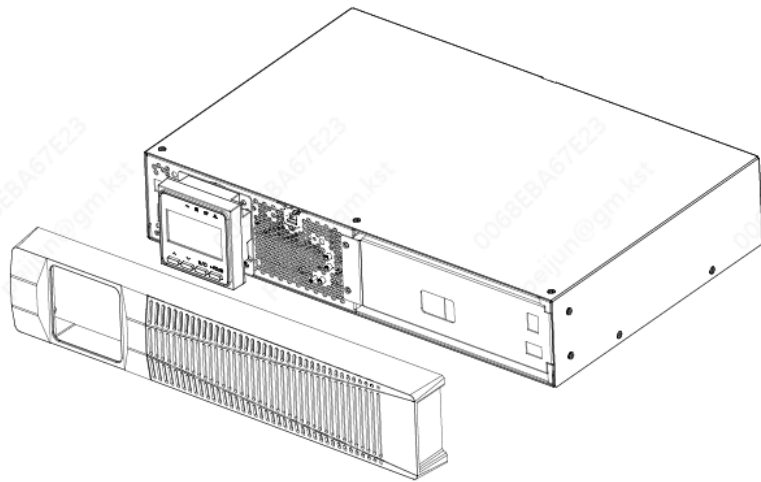

Figure 6 Connecting the UPS Internal Batteries
- b) Connect the internal battery connector(see Figure 6)